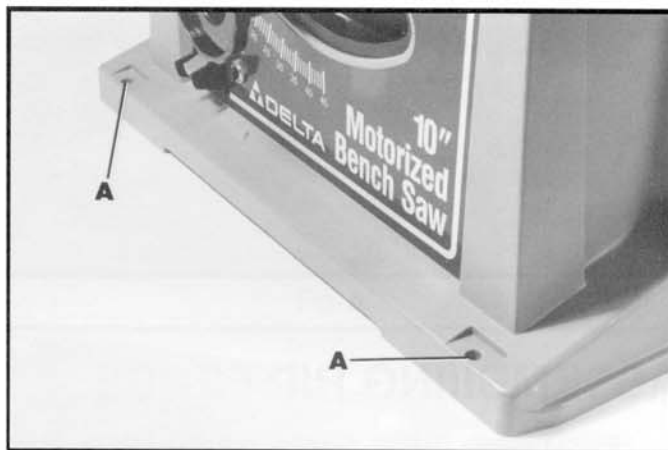

Fig. 13
The saw **MUST** be properly secured to a sturdy workbench, stand or cabinet using the four mounting holes, two of which are shown at (A) Fig. 13.